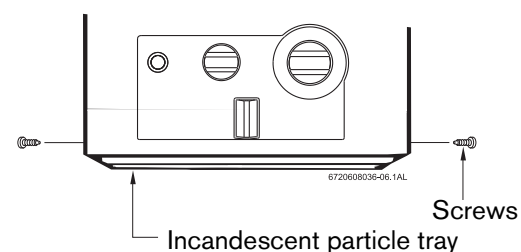

Fig. 9 Incandescent particle tray illustration
- ▶ Install incandescent particle tray using screws provided as shown in Fig. 9.